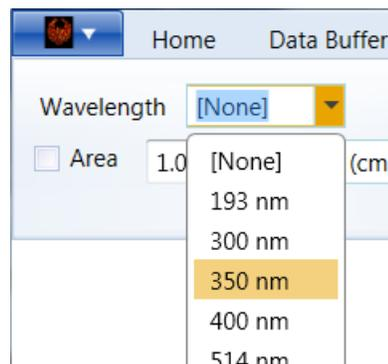

Figure 6-6. Select Wavelength
- Alternatively, edit the Wavelength table to add the new setting to the drop-down menu, shown in Figure 6-6.